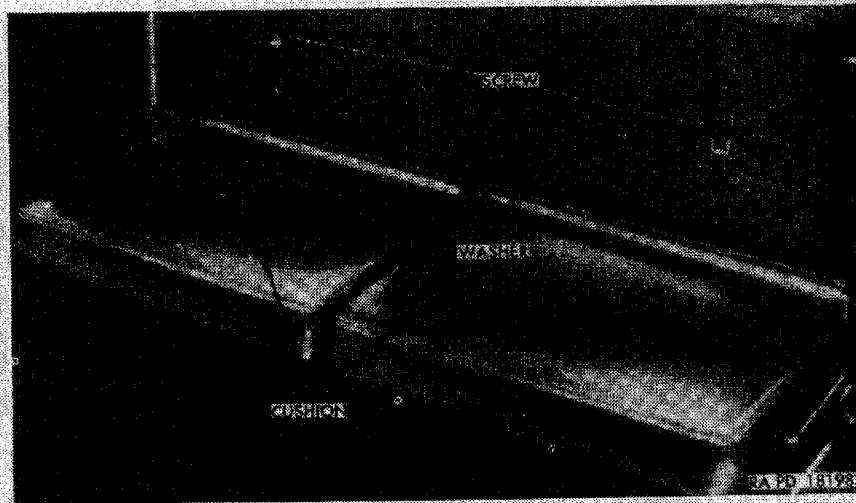

Figure 202. Right wheel house cushions—installed.
c. *Wheel House Cushions* (fig. 202).